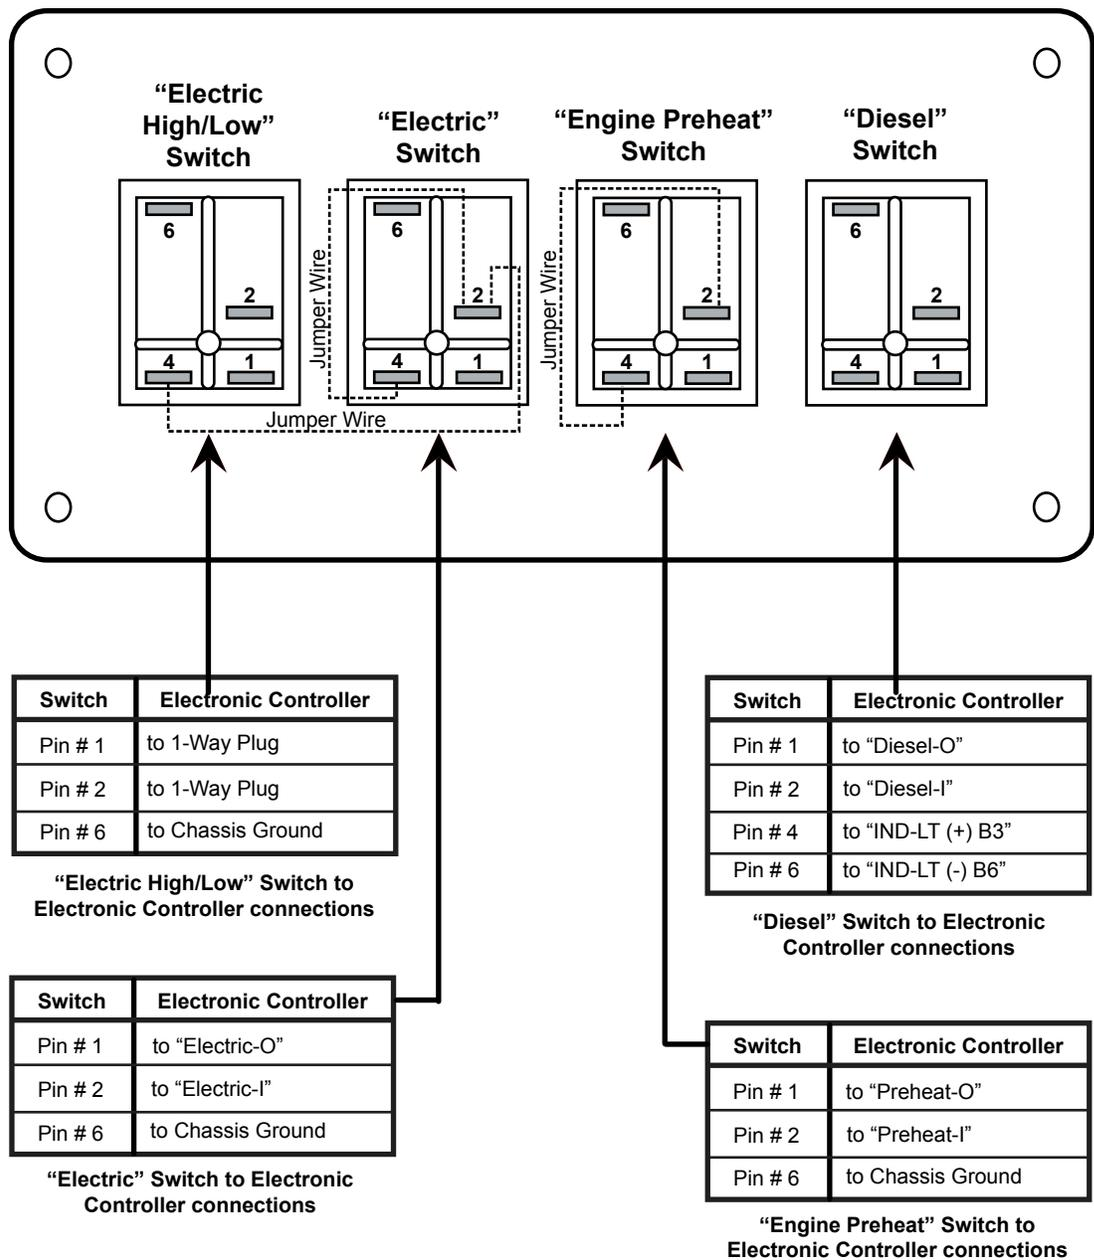

Figure 24A
4. Connect all switch wires as illustrated in Figure 23A and 23B for the AHE-100-04S Model and Figure 24A and 24B for the AHE-130-04X Model. Reference Appendix A for additional wiring information.